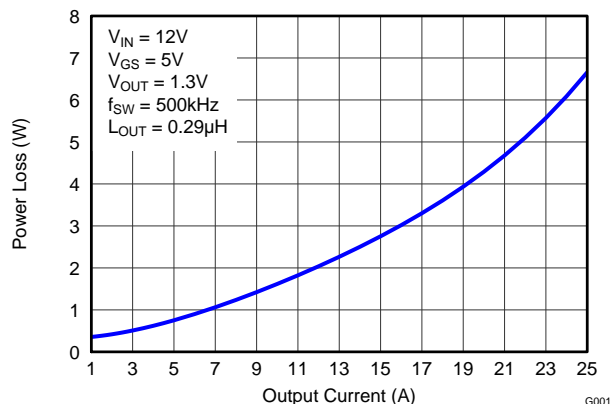
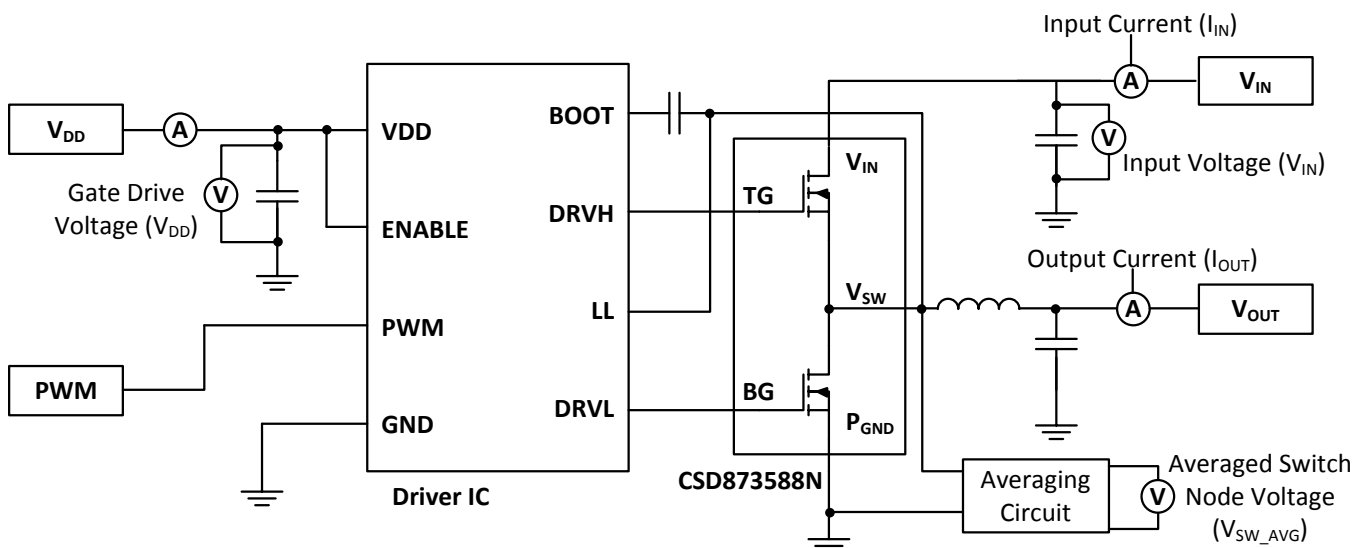

Figure 1. Power Loss vs Output Current
Figure 27. Typical Application
MOSFET centric parameters such as $R_{DS(ON)}$ and Q_{gd} are needed to estimate the loss generated by the devices. In an effort to simplify the design process for engineers, Texas Instruments has provided measured power loss performance curves. Figure 1 plots the power loss of the CSD87588N as a function of load current. This curve is measured by configuring and running the CSD87588N as it would be in the final application (see Figure 27). The measured power loss is the CSD87588N loss and consists of both input conversion loss and gate drive loss. Equation 1 is used to generate the power loss curve.
The power loss curve in Figure 1 is measured at the maximum recommended junction temperatures of 125°C under isothermal test conditions.
- Power Loss at 15A = 2.75W (Figure 1)